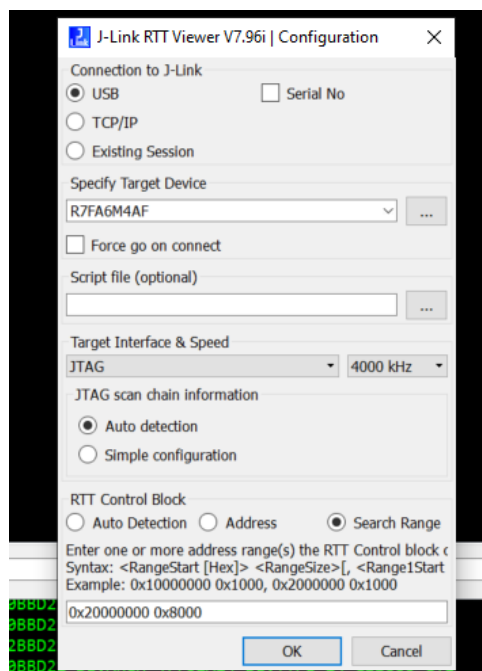

Figure 24. RTT Viewer Options
5. Ensure your configuration matches the configuration shown in Figure 24.